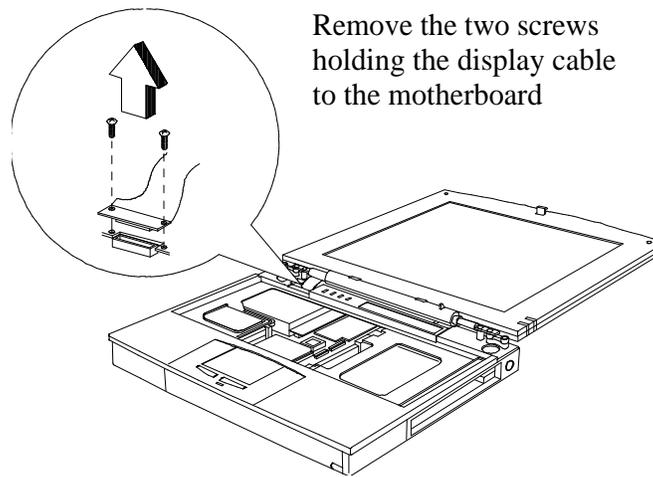

Figure 6-13 Unplugging the Display Cable
2. Refer to Figure 6-13 and remove the two screws that secure the display cable to the Motherboard assembly. Then unplug display cable J19